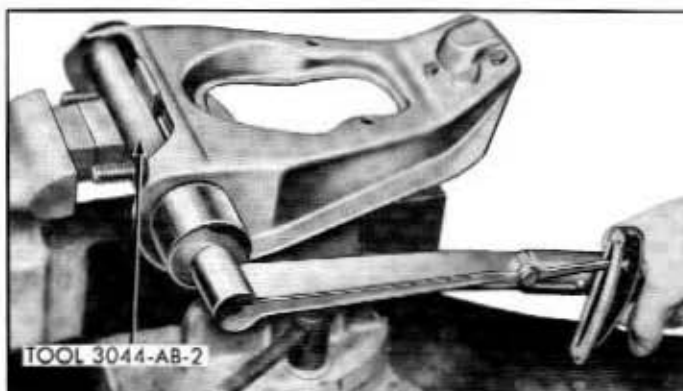

Fig. 3-20—Upper Arm Bushing Installation—(61CM-410)
- Coat the bushing outer threads with lubricant and turn the bushing onto the shaft and into the arm. See figure 3-20. The specified torque required to seat the bushings in the arm is 160-190 lbs. ft.